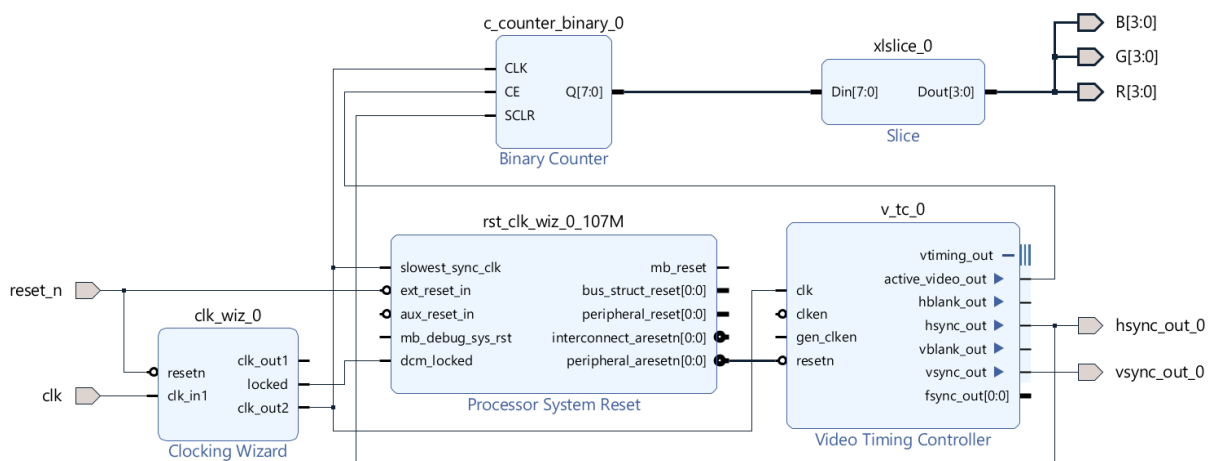

Figure 5: The system's configuration
- 10) Include three ports on 4 bits respectively named R, G and B. They will correspond to the pixels to be displayed. Connected them to the 4 MSB of the binary counter. The full system for part 1 is generated and presented in figure 5.